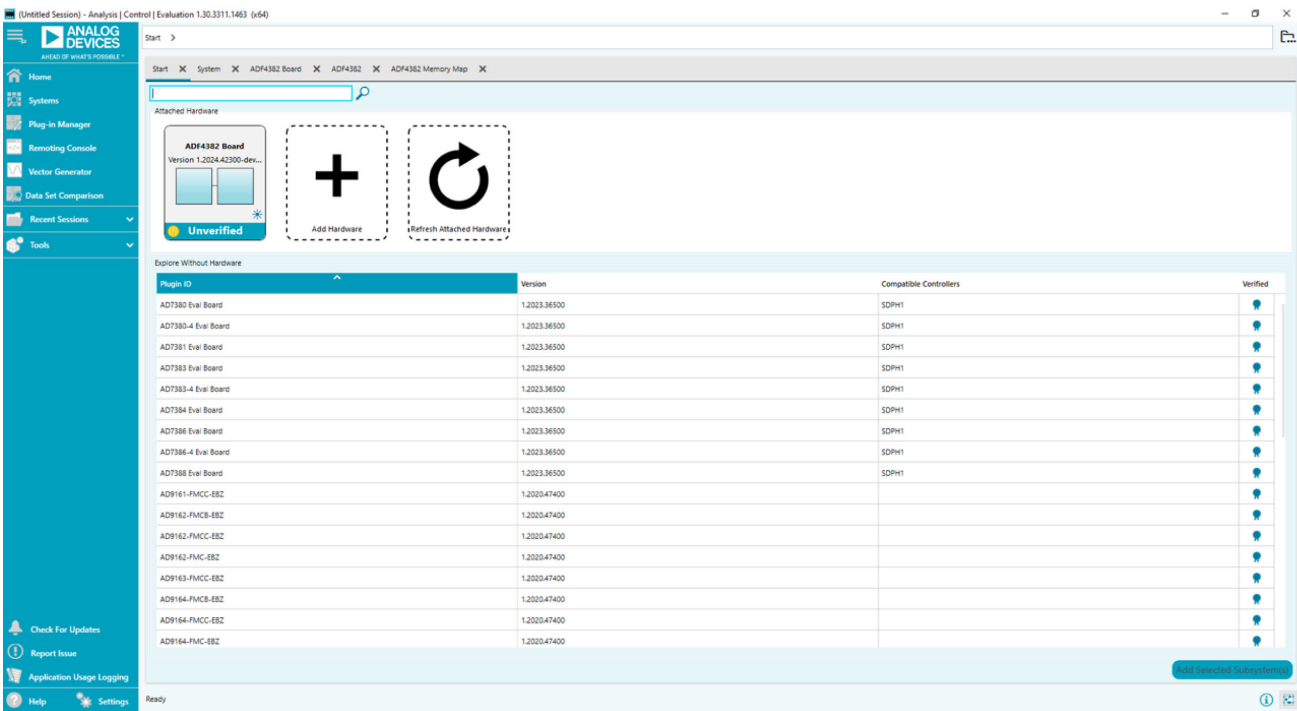

Figure 3. ACE Main Window, Attached Hardware (ADF4383 Evaluation Board)
- 1. Launch the **ACE Software**. With the **SDP-S** controller board connected to the EV-ADF4383SD1Z, the **Attached Hardware** section appears in the GUI, as shown in **Figure 3**.